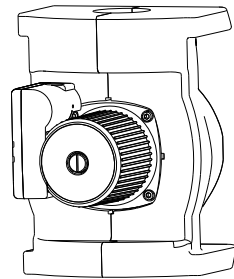

Fig. 7 Ready for insulation wrap
4. Proper amount of time should be allowed for sealant to set-up before any additional installation work is performed. See sealant manufactures recommended time for sealant set-up. See fig. 7 for final configuration.